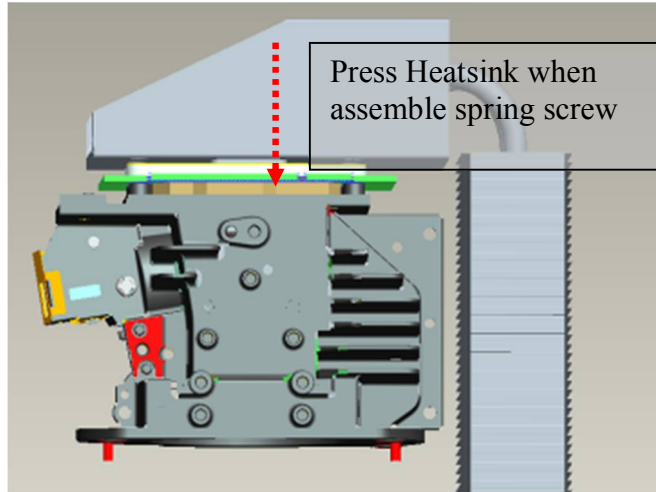

Fig. 5-6
- E. Assemble Heatsink place contact DMD (Fig. 5-6).